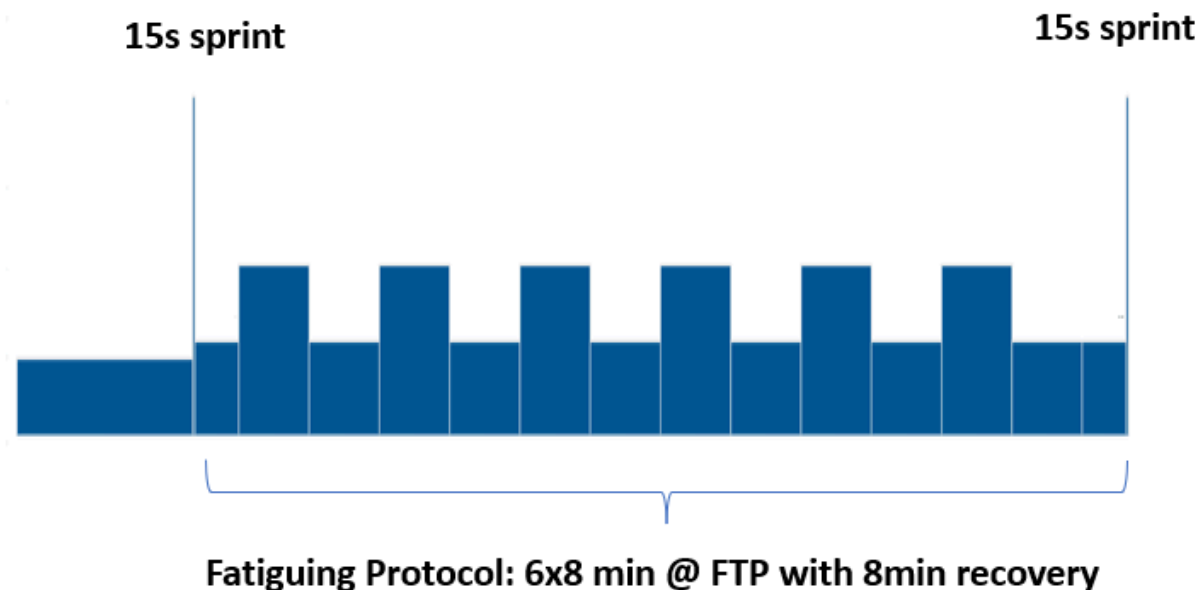

Fig. 3: example of a specific durability's standardised test for a Under 23 Sprinter. Image created using Training Peaks.
- % decrease of mean power output during a 15s maximal sprint for a road cycling sprinter. (Fig. 3)